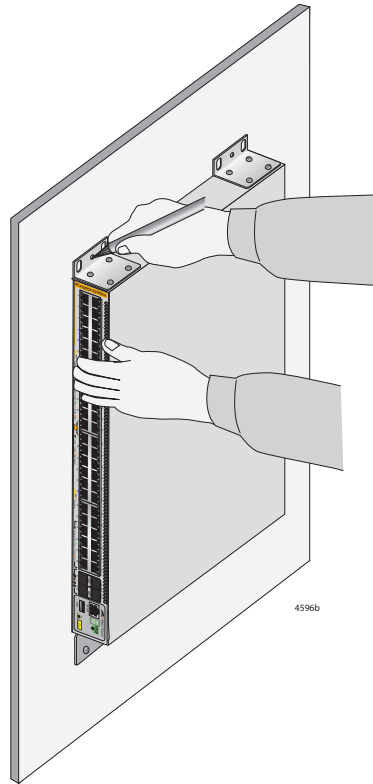

Figure 43. Marking the Locations of the Bracket Holes on a Concrete Wall
3. After attaching the brackets, have another person hold the switch on the concrete wall at the selected location for the device while you use a pencil or pen to mark the wall with the locations of the four screw holes in the four brackets (one screw per bracket). Refer to Figure 43 on page 118.